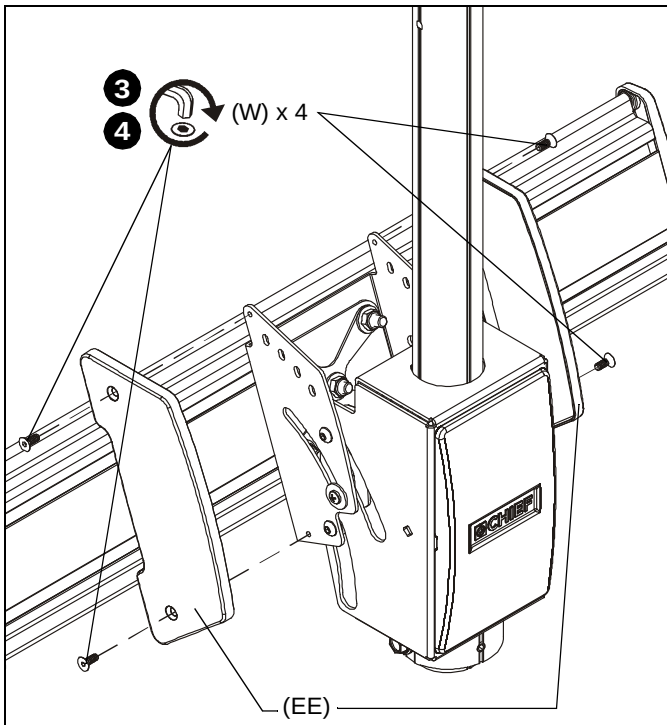

Figure 16
3. Install one side cover (EE) onto side of ceiling mount using two 10-24 x 1/2" flat head screws (W). (See Figure 16)